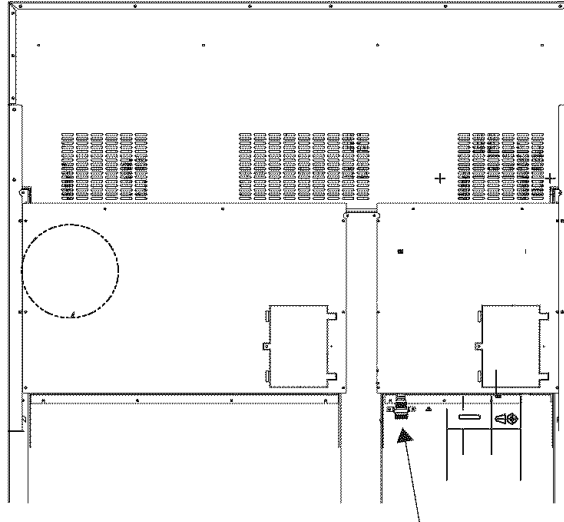

Figure 8: Location of Gas Supply Inlet Connection on 48" Ranges
- Use 3/4" flex line to connect between the gas supply and the appliance manifold pipe, which exits the upper rear of the appliance on 30" and 36" ranges. (See Photo A: The gas supply line connection is located at the lower right portion of 48" range models. (See Figure 8). The appliance manifold pipe connection is 1/2" NPT. Use caution to avoid crimping the 3/4" flex line when making bends. Suggested length of flex line is 48"; however, please check local codes for your area's requirements before installation.